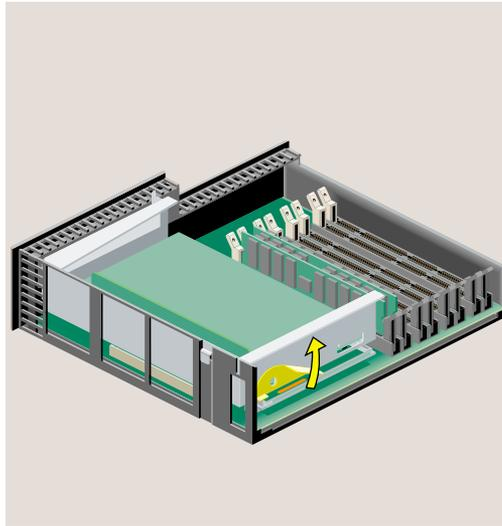

Figure 2-30 Releasing the PCI Tray
1. Push up the lever on the side of the PCI tray to release it (Figure 2-30). The tray pops up.